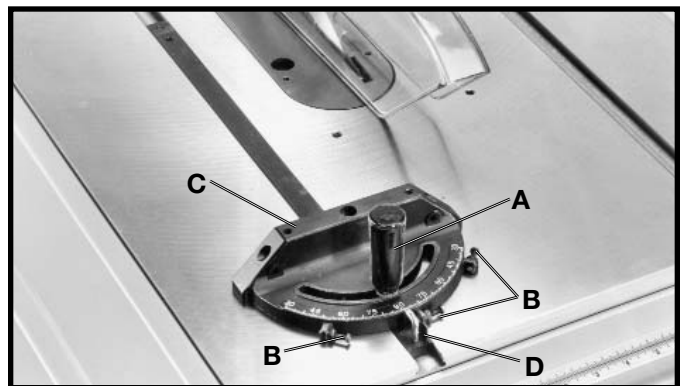

Fig. 66
The miter gage is equipped with adjustable index stops at 90 degrees and 45 degrees right and left. The index stops can be adjusted by tightening or loosening the three adjusting screws (B) Fig. 66.
To rotate the miter gage, loosen lock knob (A) Fig. 66, and move the body of the miter gage (C) to the desired angle.
The miter gage body will stop at 90 degrees and 45 degrees both right and left. To rotate the miter gage body past these points, lift the stop link (D) Fig. 66, up and out of the way.